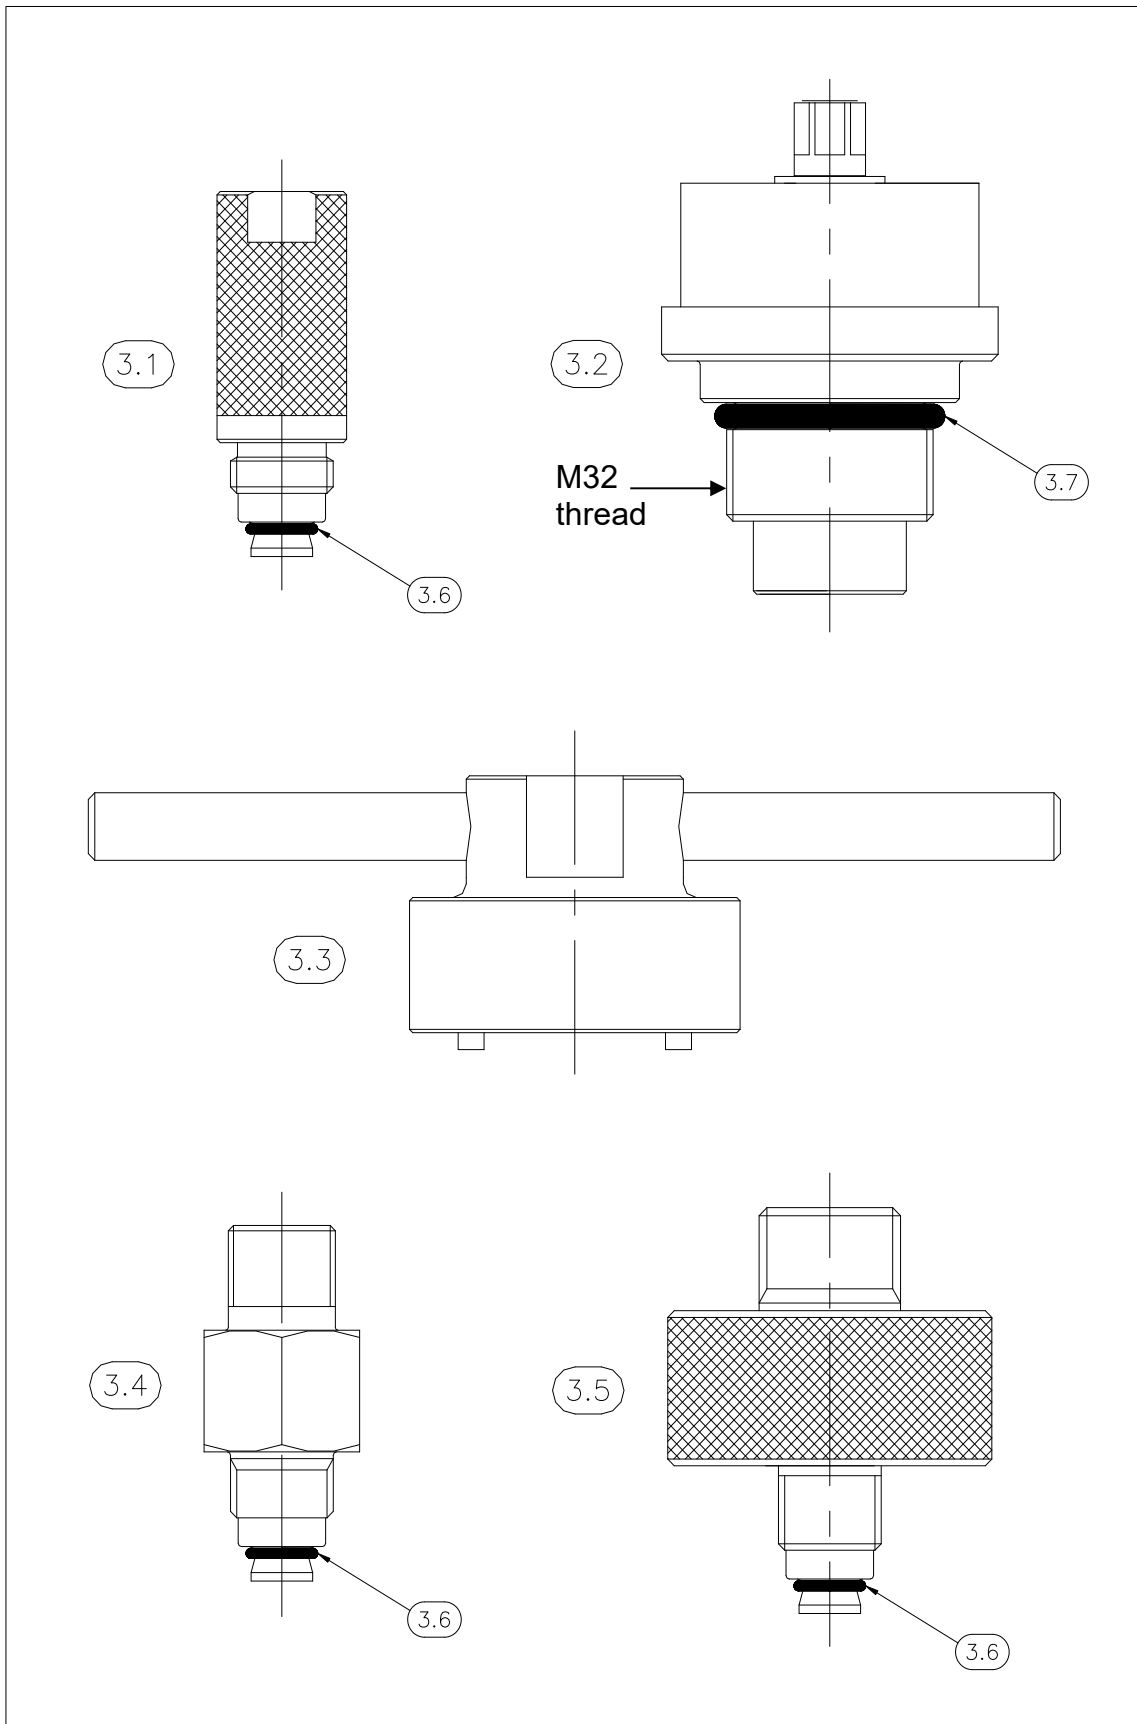

Figure 3
Figure 3 refers
6. Ensure that the gas charging hose is compatible with the Cylinder Valve outlet. If the Cylinder Valve is twin port, also fit a filling bung (item 3.1, page 6), finger tight, to the other port. (Adaptors available from Leaffield Marine, items 3.4 and 3.5, are shown in Figure 3, page 6.)